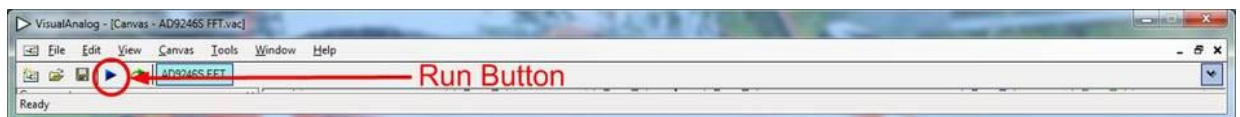

Figure 9. Run Button (Encircled in Red) in VisualAnalog Toolbar, Collapsed Display
4. Click the **Run** button in the **VisualAnalog** toolbar (see Figure 9).